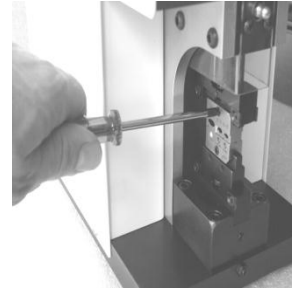

Fig. 9.05
- Choose the correct die-set and remove special screws from the die (Fig. 9.05).